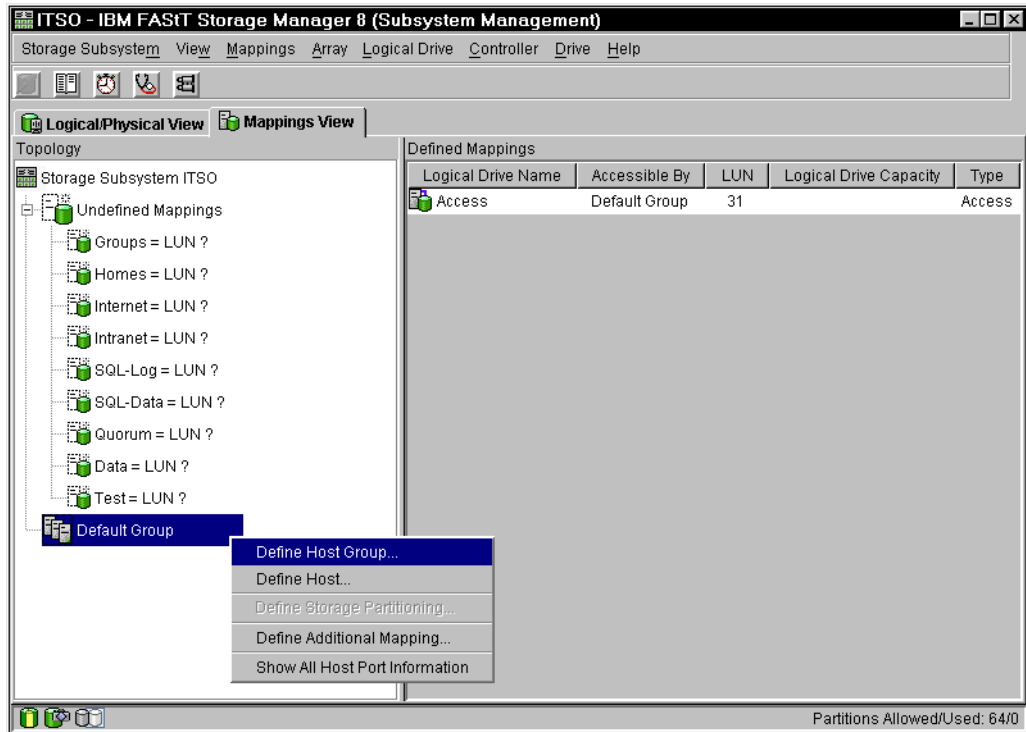

Figure 4-36 Define Host Group
2. Define the host groups. Highlight the **Default Group**, right-click, and choose **Define Host Group** as shown in Figure 4-36.